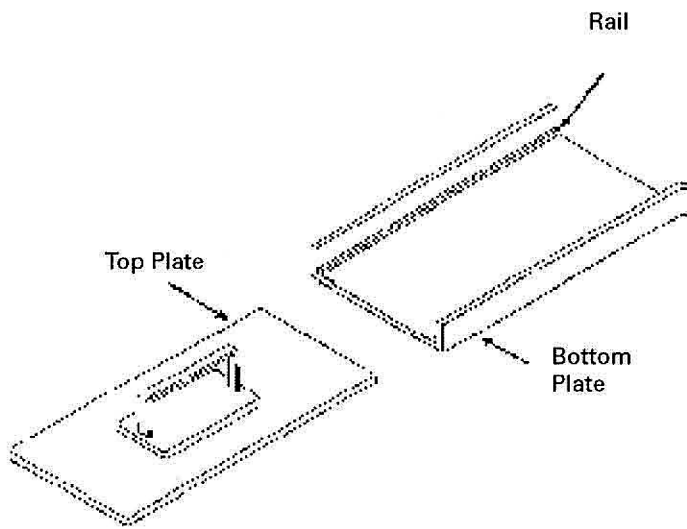

Fig. 1
4. Place each ellipsoidal mass about 1 to 1-1/2" apart on the bottom plate. See Figure 1.